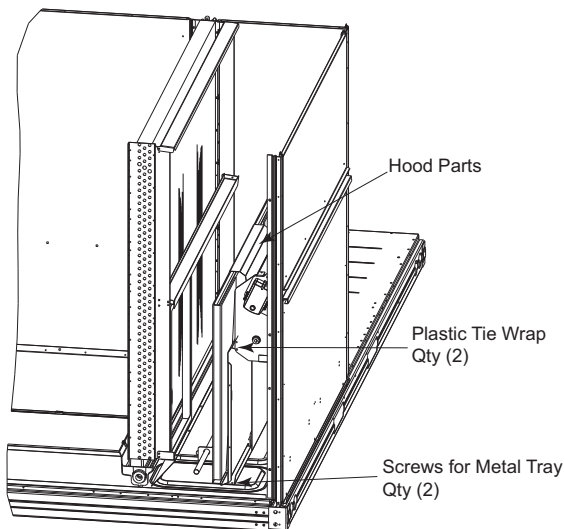

Fig. 13 - Damper Assembly
3. Locate the (2) screws holding the metal tray to the basepan and remove. In order to remove the screws, it may be necessary to remove the panel underneath the two-position damper. Remove the two screws. Locate and cut the (2) plastic tie-wraps securing the assembly to the damper. (See Fig. 13.) Be careful to not damage any wiring or cut tie-wraps securing any wiring.